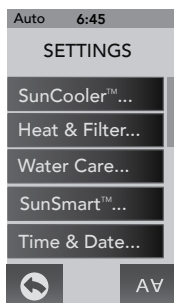

Figure 12.8a
From the Settings Menu, tap **SunSmart™ ...** to enter the programming options, Figures 12.8a and 12.8b. Make sure that you have downloaded the Wi-Fi App for this setup.
1. From the "Settings" menu, tap **SunSmart™ ...** (Figure 12.8a) to enter the menu.